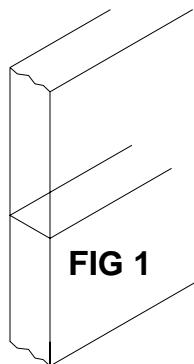
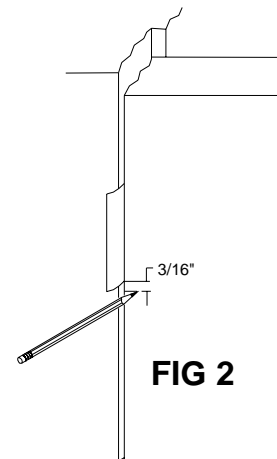

FIG 1
FIG 2
a. Draw a horizontal centerline on both sides and edge of the Door at the desired Knob Center Height (Fig. 1).
NOTE: If the Frame has already been prepared for a Falcon Strike. Install the Strike and use the Strike Lip as a reference to locate the horizontal centerline position. Mark the Door 3/16" below the bottom of the Strike Lip as illustrated in Fig.2 and draw horizontal centerlines on the Door at this position as illustrated in Fig.1.